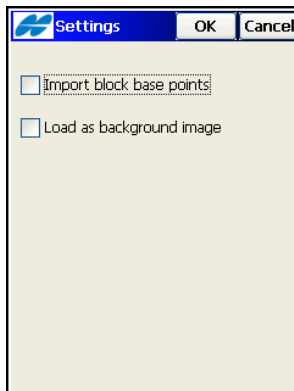

Figure 5-14. Settings
2. Tap the **Settings** button. On the Settings screen, select the following drawing styles to represent points and lines (Figure 5-14).
- Check and enable the *Import block base points* box to import central points in blocks as points (Figure 5-14 on page 5-10).
- Check and enable the *Load as background image* box to load data as background (Figure 5-14 on page 5-10).